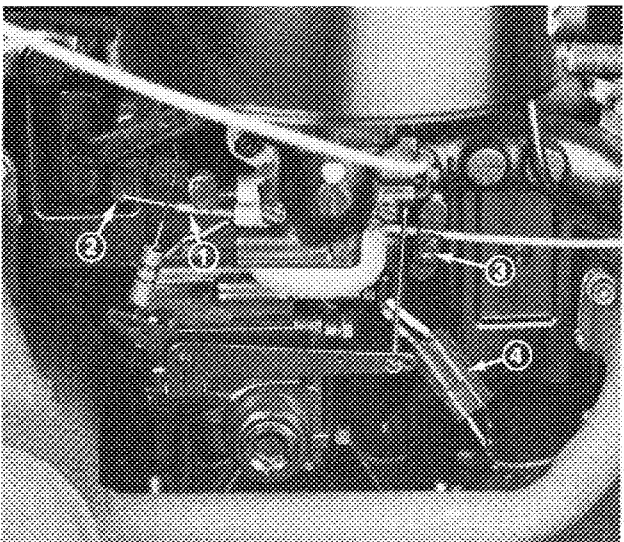

Figure 6
3. Loosen cable clamping screw allowing cable installation, but do not tighten (Fig. 6).
4. Pull firmly on throttle cable till governor arm contacts stop and tighten cable clamping screw (Fig. 6).
1. Route harness around left side of engine and secure male and female connectors at front of engine (Fig. 6).